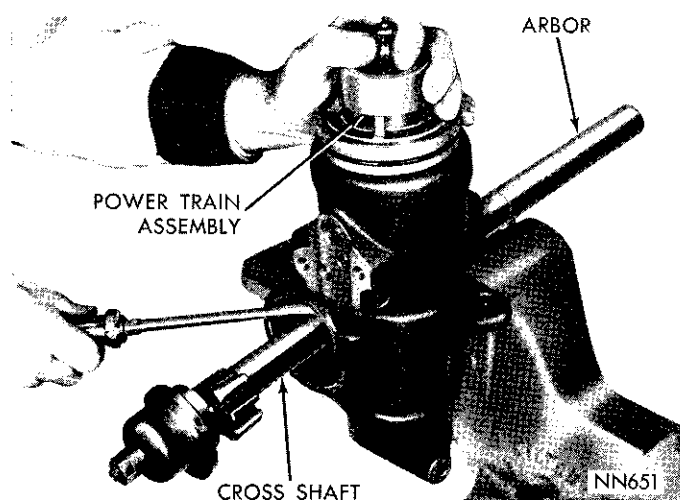

Fig. 12—Removing Power Train
(5) Loosen gear shaft adjusting screw locknut and remove gear shaft cover spanner nut with Tool C-3988.
(6) Rotate wormshaft to position gear shaft sector teeth at center of piston travel. Loosen steering power train retaining nut with Tool C-3989.
(7) Position holding Tool C-3323 so sector shaft is in a horizontal position. Place Tool C-3875 on threaded end of gear shaft and slide tool into housing until both tool and shaft are engaged with bearings.
(8) Turn wormshaft to full left turn position to compress power train parts. Remove power train retaining nut with Tool C-3989. Remove housing head tang washer.
(9) While holding power train firmly compressed, pry on piston teeth with a screw driver using gear shaft as a fulcrum and remove complete power train (Fig. 12).